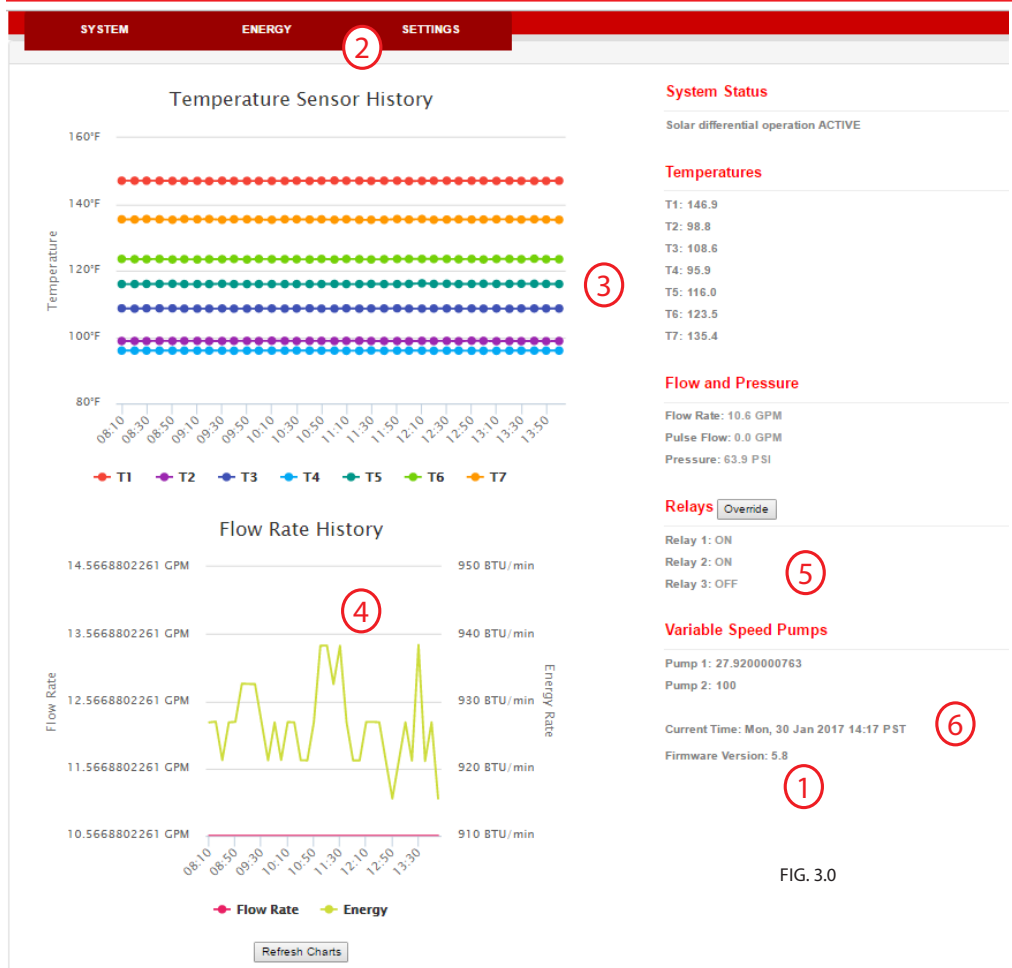

FIG. 3.0
- Open a new browser window and enter the controller's address: **192.168.7.2** in the address bar and hit enter/return key. If the controller user interface (see Fig. 3.0) does not come up right away, refresh your browser. Note: the user interface might take up to one minute to load completely depending on the web browser and OS.